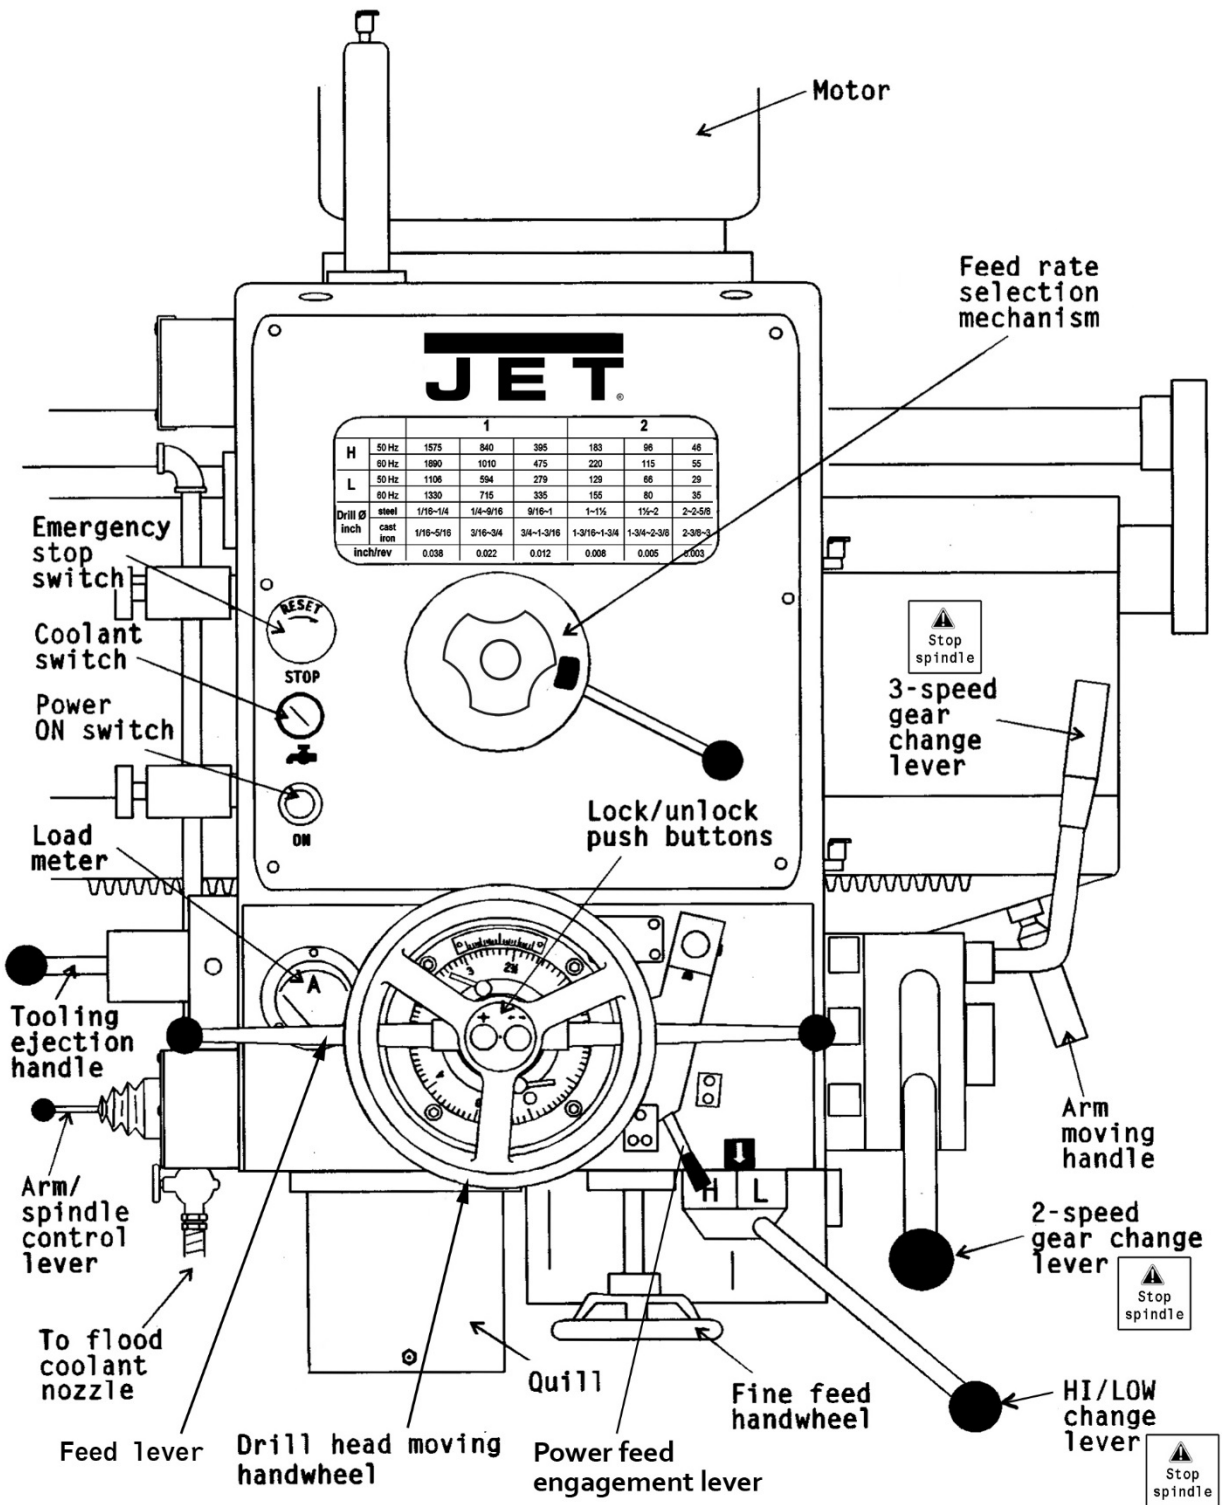
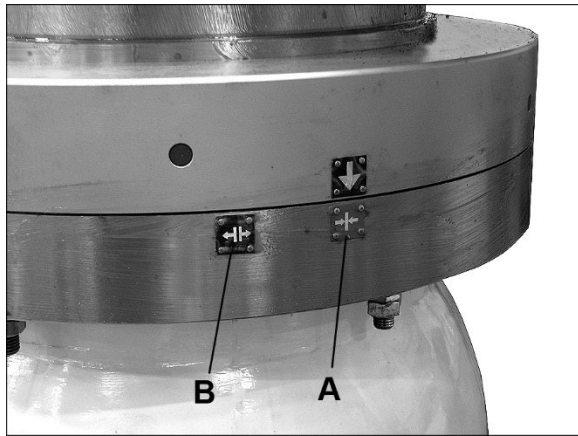

Figure 10: Operating Controls
Figure 11: Locking indicators
*See Figure 10 for details on drill head controls.
5. Turn coolant switch (See Figure 10) to ON position.
4. Pull the tooling ejection handle *out* to be certain the tooling can be inserted. See Figure 10.
The buttons which control the locks are located in center of drill head handwheel (see Figure 10). Press and hold UNLOCK (green) button until arrow (Figure 11) points to "B". Release button. Clamping device is now disengaged. When locking, press and hold LOCK (red) button until arrow points to "A". Clamping device is now re-engaged.
2. Raise or lower arm to required height using arm/spindle control lever (see Figure 10). See also section 8.24, *Arm/spindle control lever*.
2. Turn handwheel to move drill head along arm. See Figure 10.
2. Swing arm using handle (see Figure 10) to required spindle position.